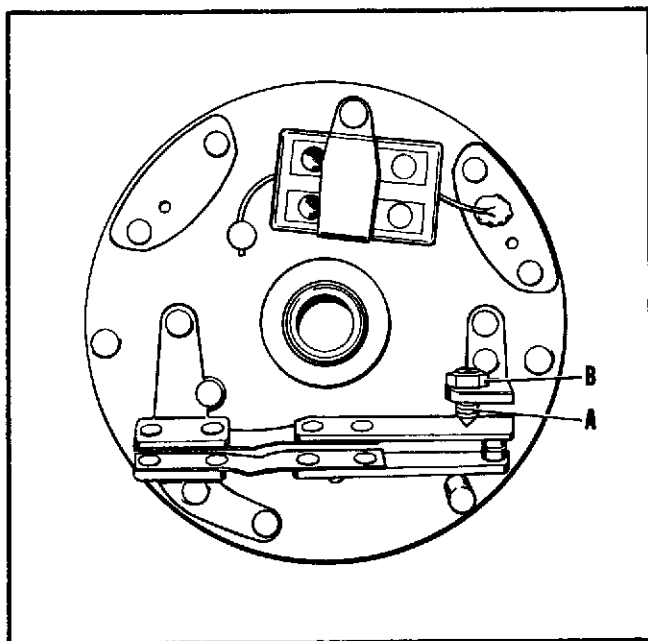

Figure 2-39. Drive Motor Governor Adjustment
c. With motor running, check the motor speed by means of a tachometer on the motor armature shaft. Motor speed should be 5554 revolutions-per-minute. To adjust motor speed, loosen adjustment nut (B), figure 2-39, on the governor. Turn adjustment screw (A) clockwise to increase speed or counterclockwise to decrease speed. Tighten nut (B) securely after adjustment has been made. Turn switch to OFF position.